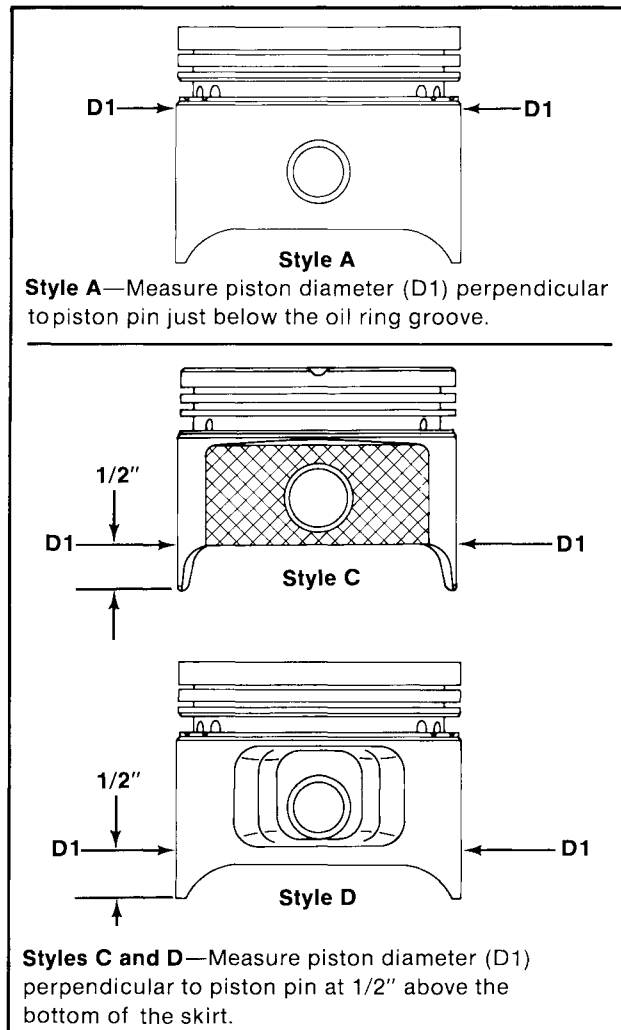

Figure 11-4. Measuring Piston Diameter.
- Use a micrometer and measure the diameter of the piston as shown in Figure 11-4.